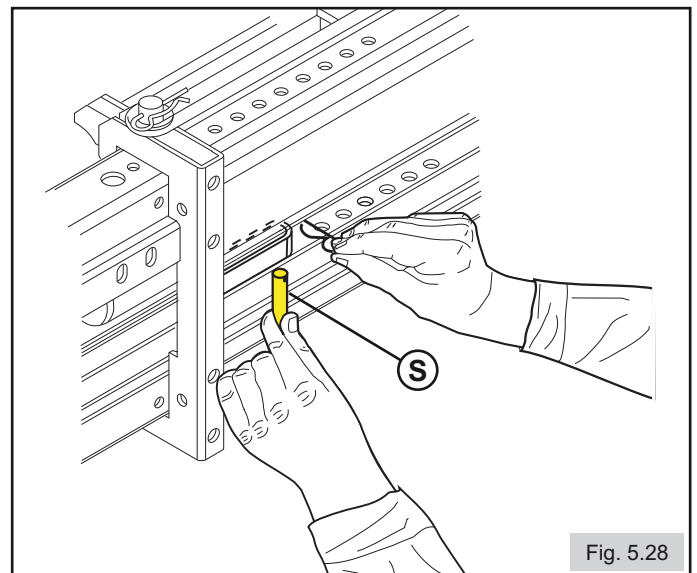

Fig. 5.28
- Re-insert pin **S** (Fig.5.28).